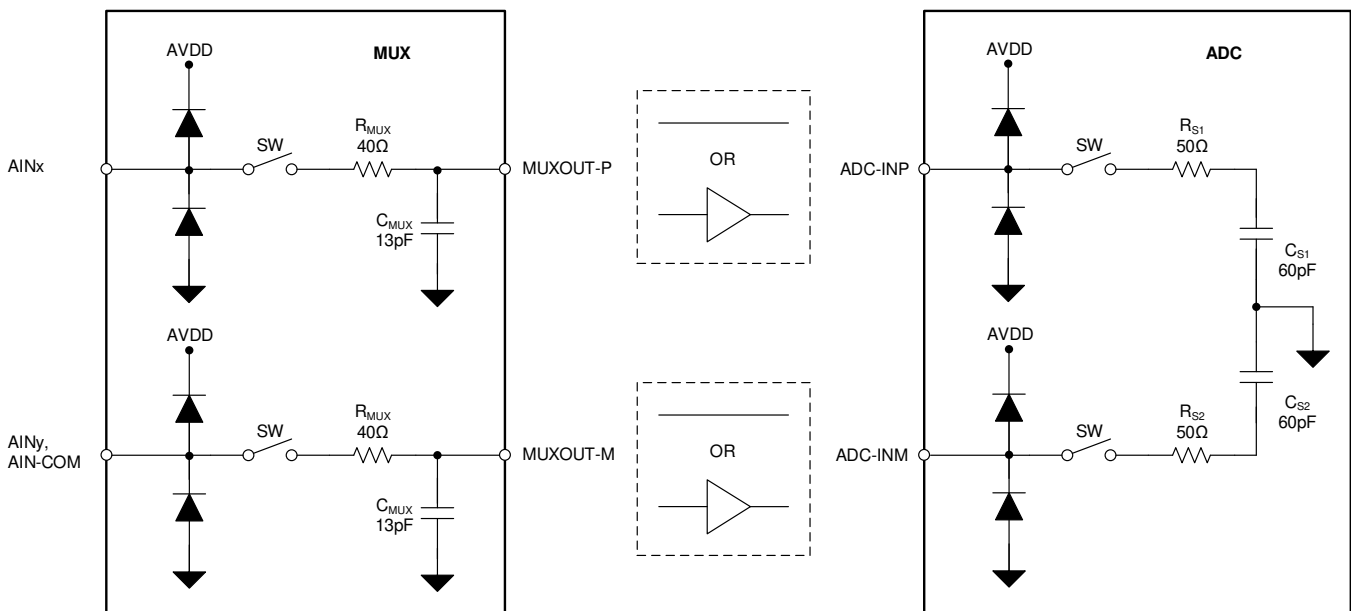

Figure 30. Input Sampling Stage Equivalent Circuit
Figure 30 shows the small-signal equivalent circuit of the sample-and-hold circuit. Each sampling switch is represented by resistance (R_{S1} and R_{S2} , typically $50\ \Omega$) in series with an ideal switch (SW). The sampling capacitors, C_{S1} and C_{S2} , are typically $60\ \text{pF}$.